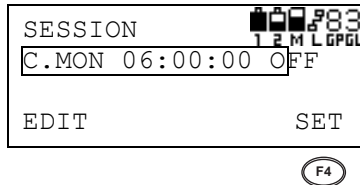

Figure 3-118. Confirm Session and Press F4
5. Confirm that the selected session is correct, then press **F4** (SET) (Figure 3-118).